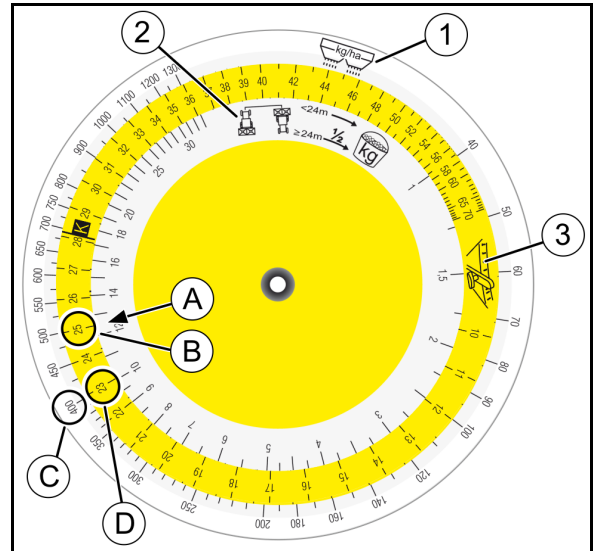

Fig. 54
On the scale (Fig. 54/2) for collected quantity lb [kg], look for the value (A) and align with the selected slider position (B) of the coloured scale (Fig. 54/3).
3. Look for the desired spread rate (C) and read off the required slider position (D).